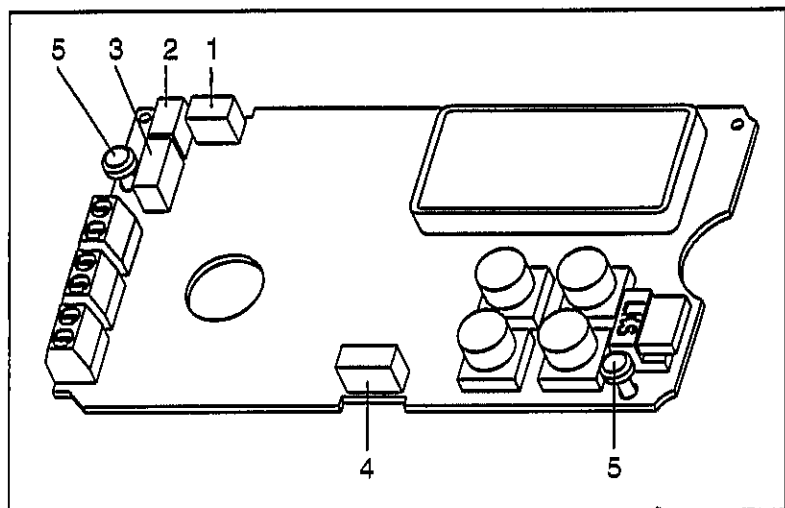

Fig. 33 Motherboard
- Fasten I/P module with both screws (1) in the case; **torque the fasteners to 350 Ncm (31 in-lbs).**
- Connect all connectors on the motherboard (see Fig. 33 on page 40); ensure that all connectors snap in correctly.